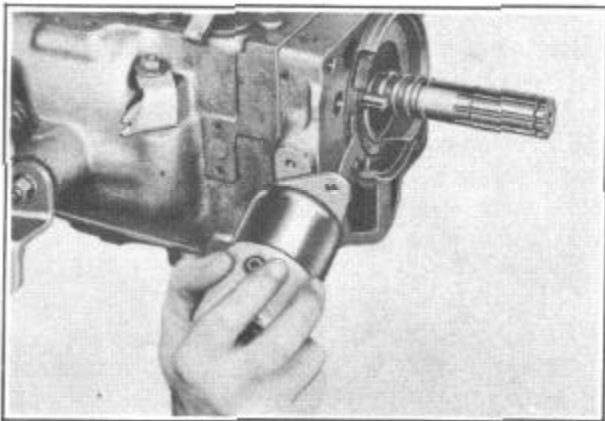

FIGURE 24
4. Install the solenoid by turning the solenoid counter-clockwise one-quarter turn, Figure 24, and attach the solenoid to the case with the two lock washers and cap screws.